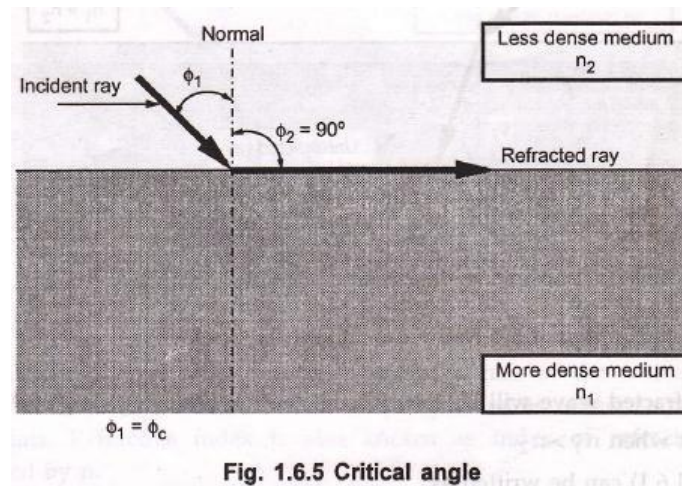

Fig. 1.6.5 Critical angle
- The **critical angle** is defined as the minimum angle of incidence ( $\phi_1$ ) at which the ray strikes the interface of two media and causes an angle of refraction ( $\phi_2$ ) equal to 90°. Fig 1.6.5 shows critical angle refraction.